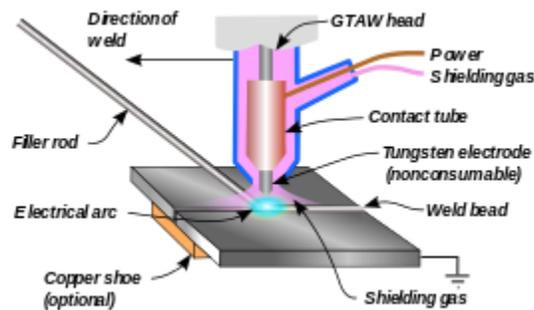

Figure Weld-4: TEG welding process
- TIG or Gas Tungsten Arc Welding: As in figure Weld-4.